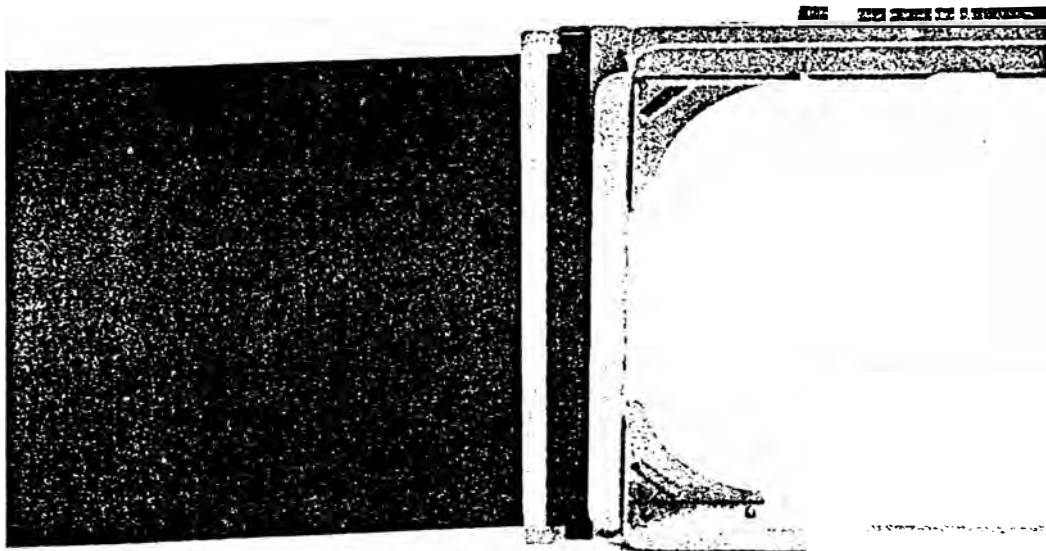

Figure 24: Attach Fabric Hood and Hood Support Poles to Frame and Base Assembly
3. Insert the flaps into the slots from the side of the frame where the fabric hood is attached to the U-channel of the frame (see Figure 24). Use the different flap lengths to fit various cabinet widths.